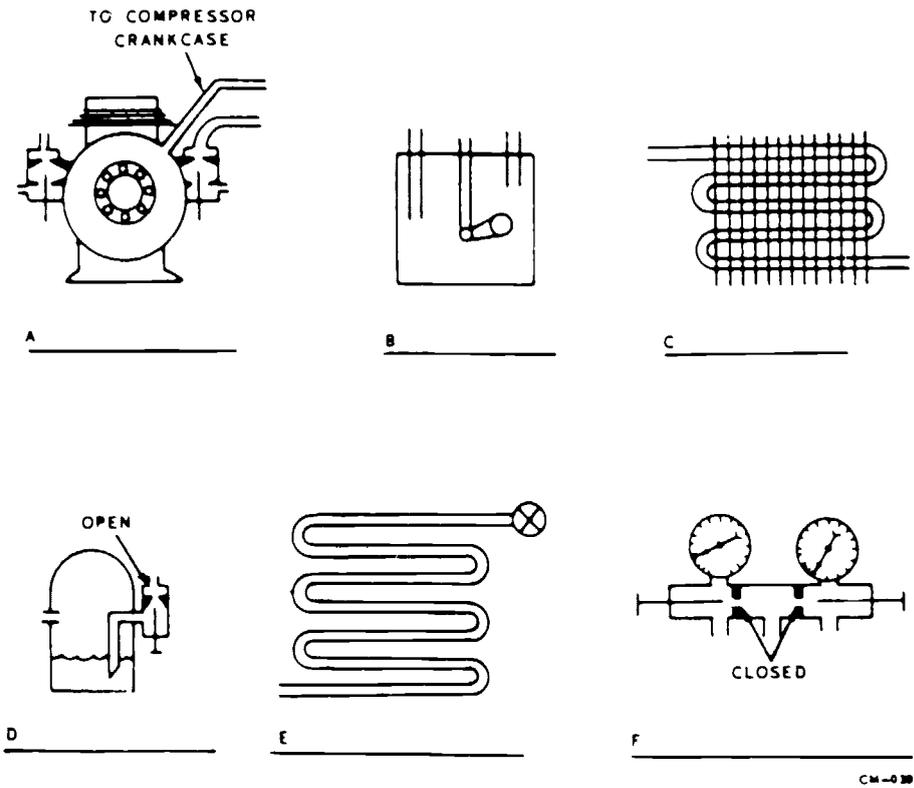

Figure 8. System Components
- 1. Study the arrangement of the components in figure 8.